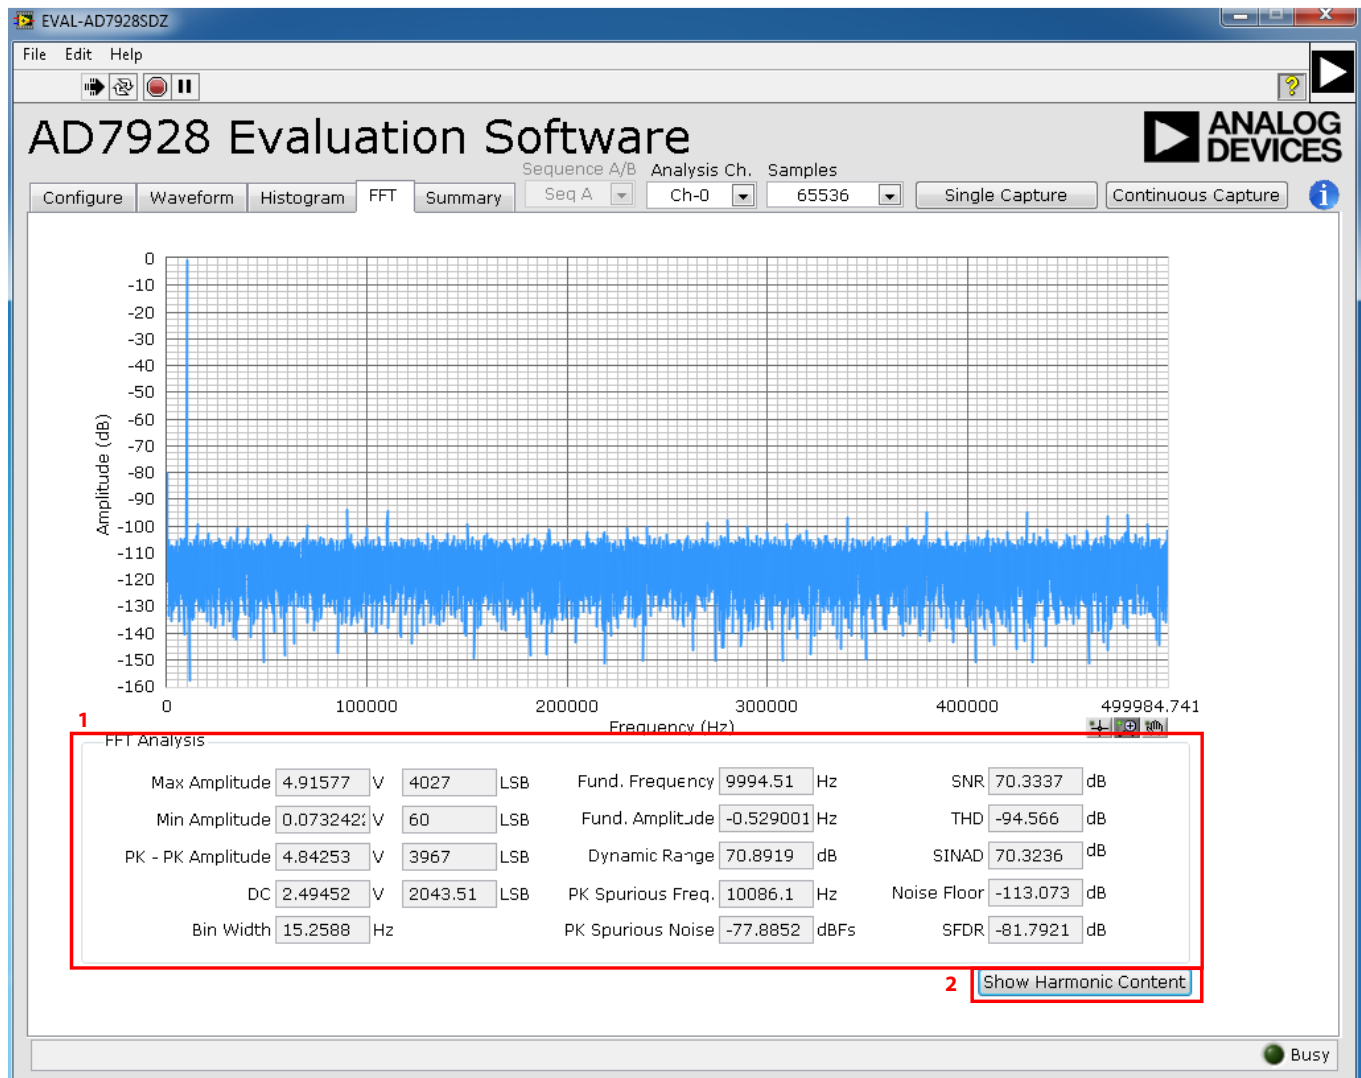

Figure 20. FFT Capture Tab
Figure 20 shows the FFT capture tab. The FFT tests the traditional ac characteristics of the converter and displays a fast Fourier transform (FFT) of the results. As in the histogram test, raw data is captured and passed to the PC, where the FFT is performed, displaying the signal-to-noise ratio (SNR), signal-to-noise-and-distortion (SINAD), and total harmonic distortion (THD).
Figure 20 displays the spectral analysis results of the captured data.
- The **FFT Analysis** panel displays the performance data: **SNR, THD, SINAD, Dynamic Range**, and noise performance along with the input signal characteristics (see Label 1 in Figure 20).
- Click **Show Harmonic Content** to switch the panel to display the frequency and amplitude of the fundamental in addition to the second harmonics to the fifth harmonics (see Label 2 in Figure 20).